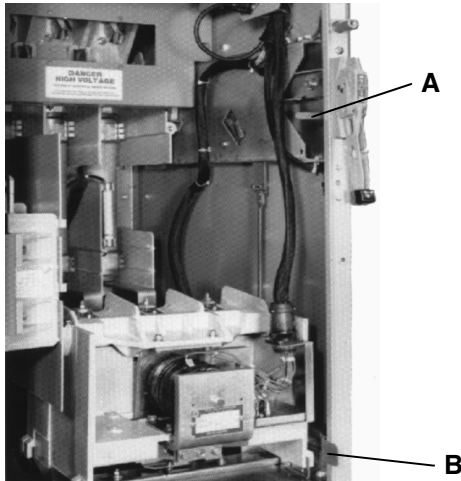

Figure 17 Medium Voltage Compartment Interlock
A handle interlock lever (Fig. 17, item A) prevents opening the medium voltage compartment door when the isolation switch is closed. The medium voltage door interlock (Fig. 17, item B) combined with the handle interlock lever prevents closing the isolation switch when the medium voltage compartment door is open. To check operation of the interlock:
4. Press down on handle interlock lever (Fig. 17, item A) and try to close isolation switch by moving the switch handle slowly toward the ON position. Do not use excessive force. Door interlock must prevent isolation switch from being closed.